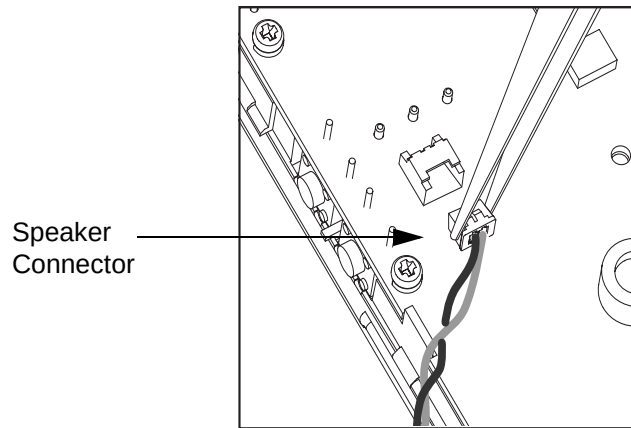

Figure 2-12
9. Connect the internal speaker connector to the PC board ("see "Figure 2-12").